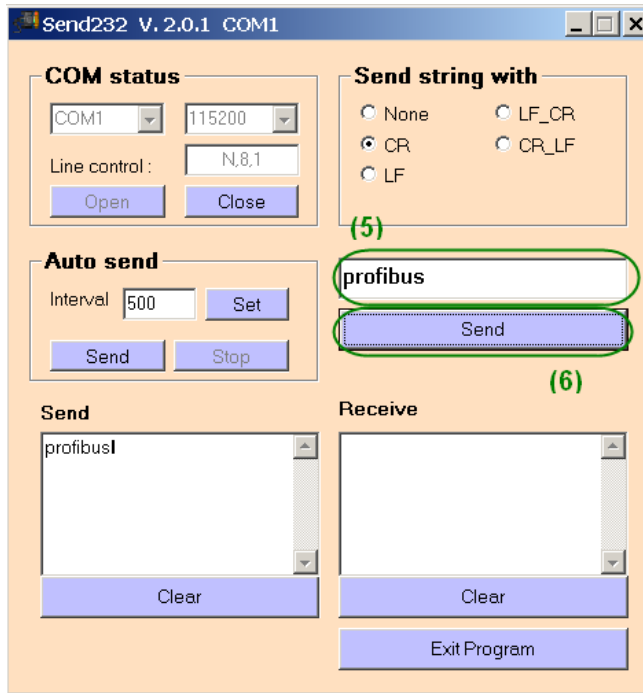

Figure 38: Sending a string to the converter
- 5) Type “PROFIBUS” in the text field above the “Send” button (Figure 38).